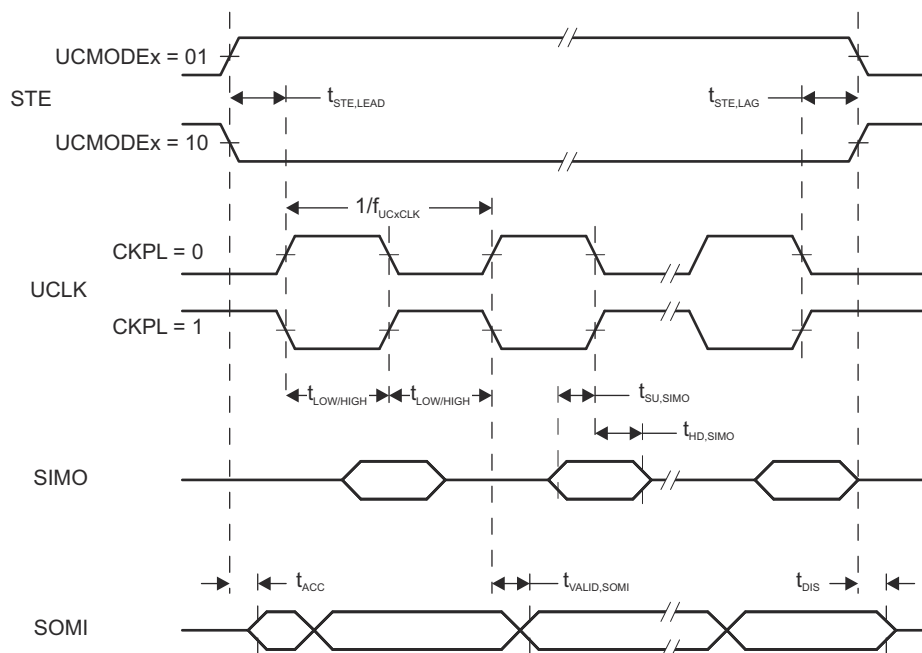
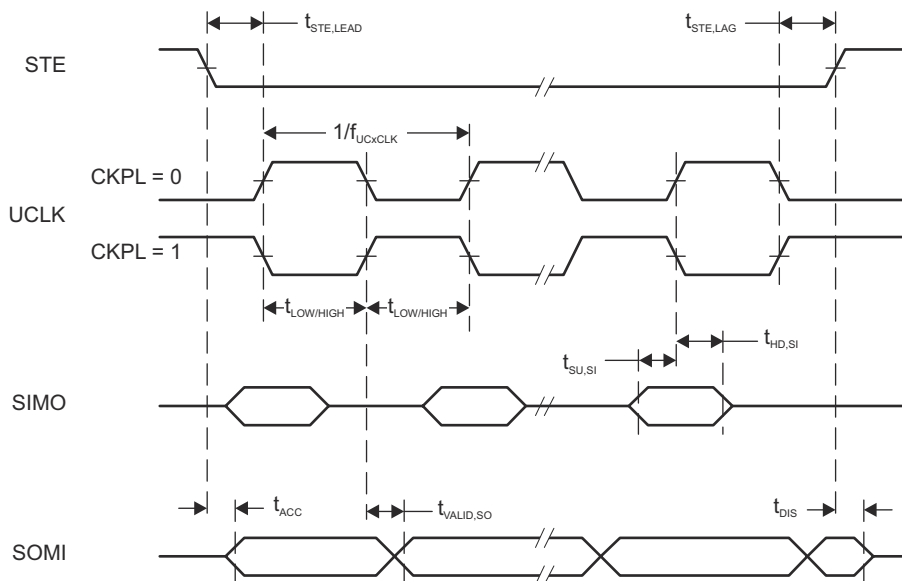

Figure 8-12. SPI Slave Mode, CKPH = 0
Figure 8-13. SPI Slave Mode, CKPH = 1
(2) Specifies the time to drive the next valid data to the SOMI output after the output changing UCLK clock edge. See the timing diagrams in Figure 8-12 and Figure 8-13.
(3) Specifies how long data on the SOMI output is valid after the output changing UCLK clock edge. See the timing diagrams in Figure 8-12 and Figure 8-13.